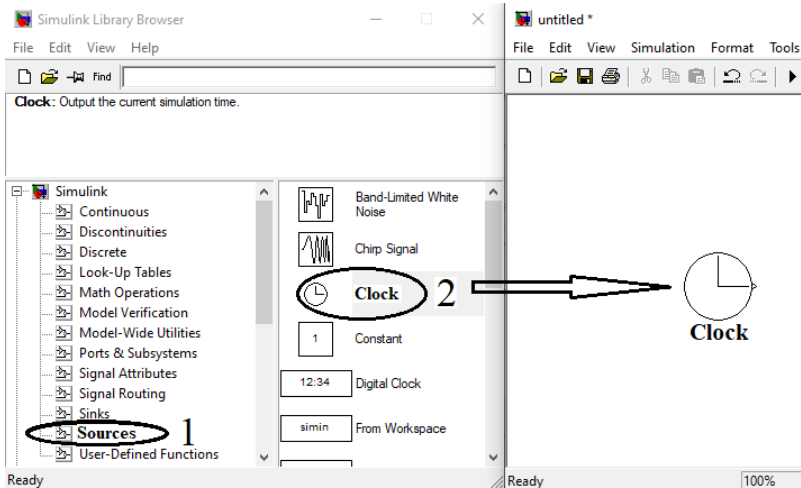

Figure 1.4 – Moving the Clock as the block from the Simulink Library Browser to the Untitled Window
Figure 1.4 shows that Sources library is selected in Simulink Library Browser in the left pane (number 1 in Figure 1.4). The right pane of Simulink Library Browser displays icons from the selected library. Select the Clock icon (number 2 in Figure 1.4). Place the cursor on it, press and hold down the left mouse button and move this icon to the created Untitled window. Then release the left mouse button. Therefore, the Clock as the block has moved to the Untitled window (shown by the arrow in Figure 1.4)
5.1. To build the block diagram, first open the **Simulink/Sources** library. Find and move the input signal icons from the Simulink Library Browser to the created Untitled Window, as shown in Figure 1.4 and set block data in the